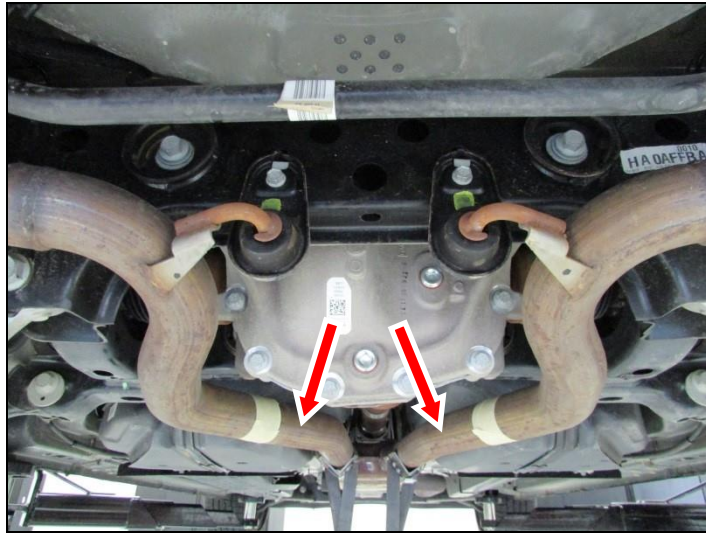

Figure 1
3. From under the vehicle, locate this area of the mid pipe. This section of the OE mid pipe is about to the end of the rear of the gas tank (**Figure 1**).